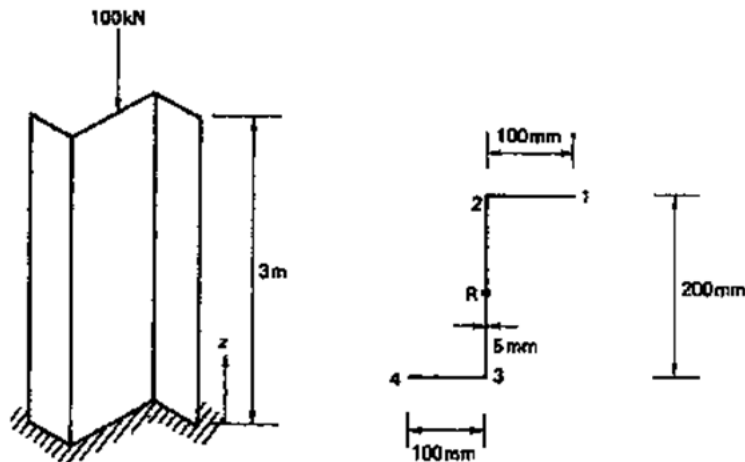

Figure 4
- (b) The column shown in Figure 4 carries a vertical load of 100 kN. Calculate the angle of twist at the top of the column and the distribution of direct stress at its base.  $E = 200\,000\text{ N/mm}^2$  and  $G/E = 0.36$ . [BL: Apply| CO: 6|Marks: 7]